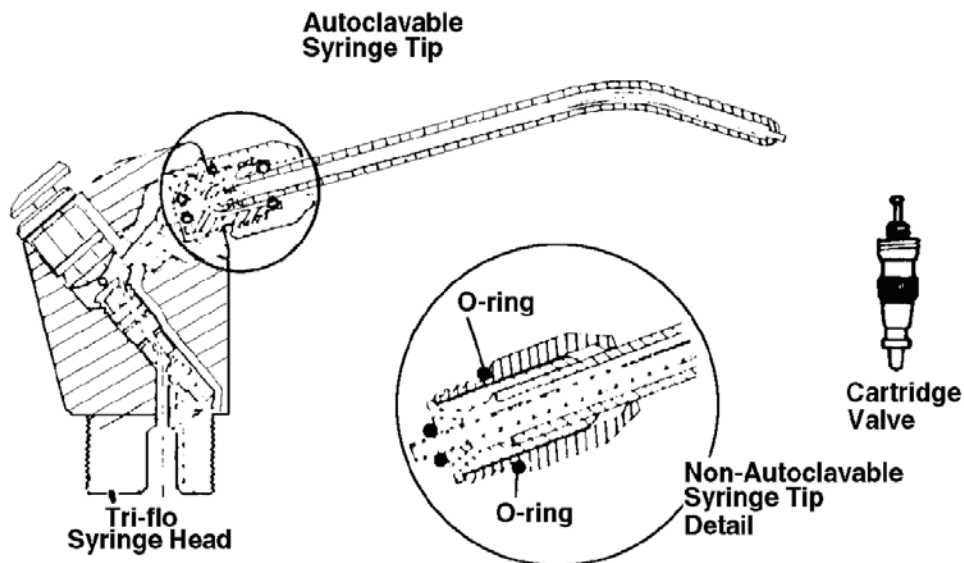

Figure 5-1. Syringe head.
(1) Determine if there is a defective O-ring on the connection tube at the syringe terminal (head). Refer to figure 5-1.